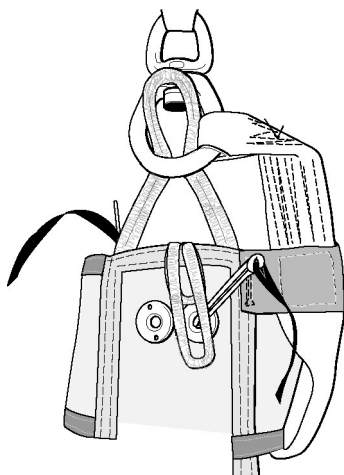

Figure 18. Routing of Large Loop/Engaging Tab to Fastener Tape
i. Pull bridle to ensure there are no twists, align and mate fastener tape. Fold and move swivel back toward fastener tape at 45 degree angle and tack with single turn E thread. Tie off with a surgeon's knot, followed by a square knot. Attach bridle to tab by engaging fastener tape (Figure 18).
b. Route the soft release's large loop through the swivel's large ring (Figure 18).